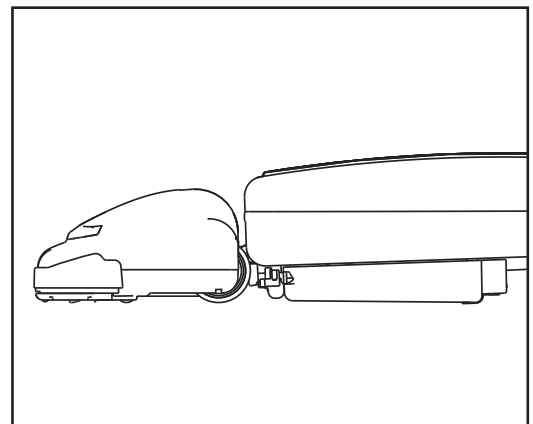

Fig. 3
- Continue to lower the handle to enable the vacuum to lay flat on the floor for cleaning under furniture (Fig. 3).